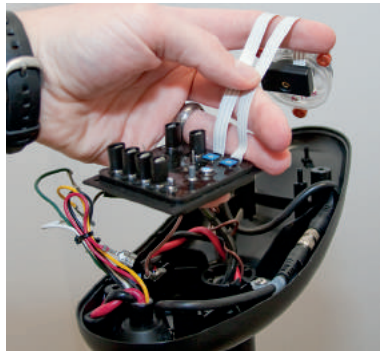

FIGURE 14
- b. Remove **the** AutoPilot controller from the head of the trolling motor (Figure 14). This is done by pushing out the locking tabs then lifting the circuit board out. Finally, lift out the compass.